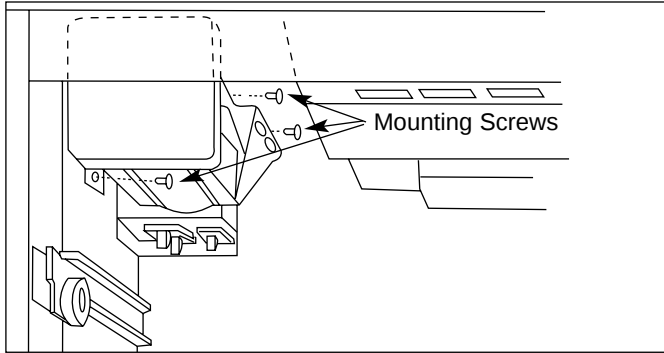

Figure 2-39. Models 511, 550 Ice maker
The ice maker is located in the upper left corner of the freezer compartment and secured to the side wall by two screws above the ice maker and one screw below it (Figure 2-39).
2. Then extract the two mounting screws at the top, above the icemaker mold (Figure 2-39).